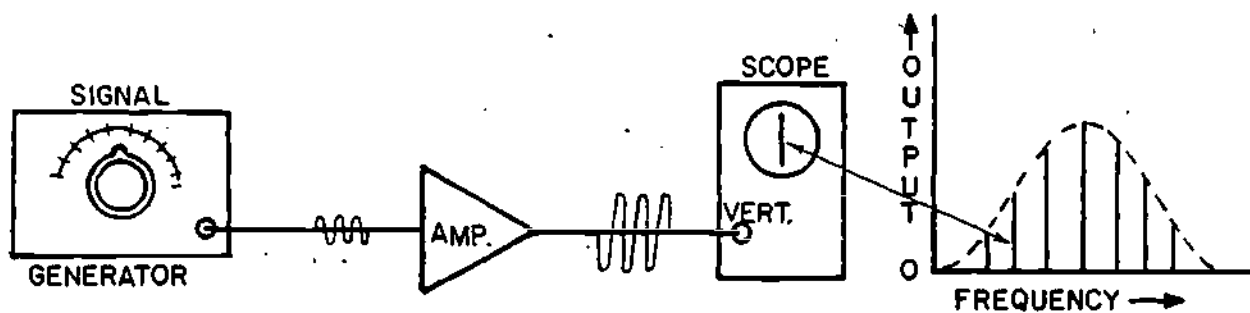

Figure 36
37. In the first lesson in this module, you learned that amplifiers must amplify signals in the audio or video frequency range. Therefore, you must be able to determine whether an amplifier is actually amplifying the required frequencies. We now will discuss a method to test the frequency response of any amplifier. Figure 36 shows a diagram of one test method.
The test equipment includes a standard signal generator and an oscilloscope. To perform the test, you first set the signal generator to exact frequency values within the frequency range of the test amplifier. The amplifier's output is then measured on the oscilloscope. In Figure 36, the height of the vertical line on the oscilloscope's CRT shows the amplitude of the output from the amplifier at one test frequency. You can plot a graph of the vertical lines for all test frequencies as shown in the figure. You then get a frequency response curve by connecting the top of the vertical lines on the graph with a smooth curve.
In Figure 36, the image on the oscilloscope represents the _____